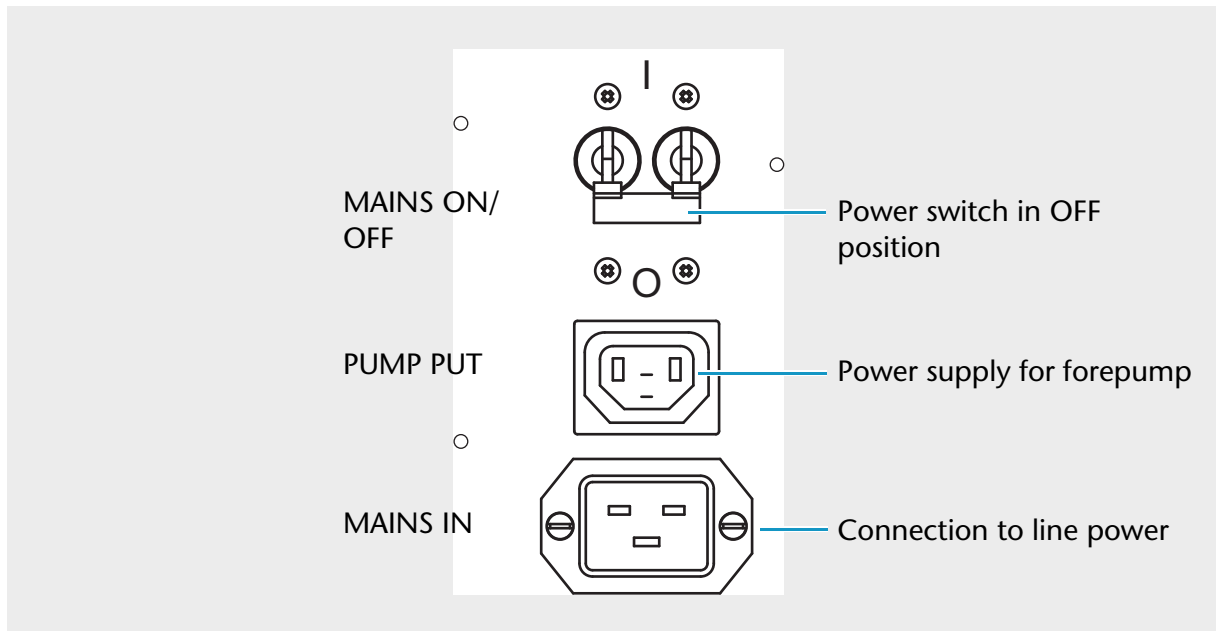

Fig. 76 MAINS ON/OFF circuit breaker switch
If you need to turn off the mass detector in an emergency, place the main power circuit breaker switch in the Off (O) position, as shown in Figure 76. The main power switch, which is labeled MAINS ON/OFF, is located on the rear panel of the mass detector in the lower-right quadrant. Turning the main power switch to the Off position turns off all power to the mass detector, including the forepump. Although removing power abruptly does not harm any component within the system, it is not the recommended shutdown procedure to follow. Refer to “Shutting the System Down for Non-Routine Maintenance” on page 111 for the recommended procedure.